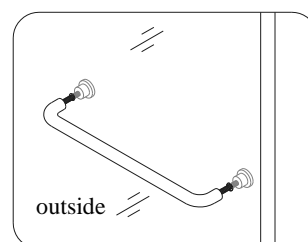
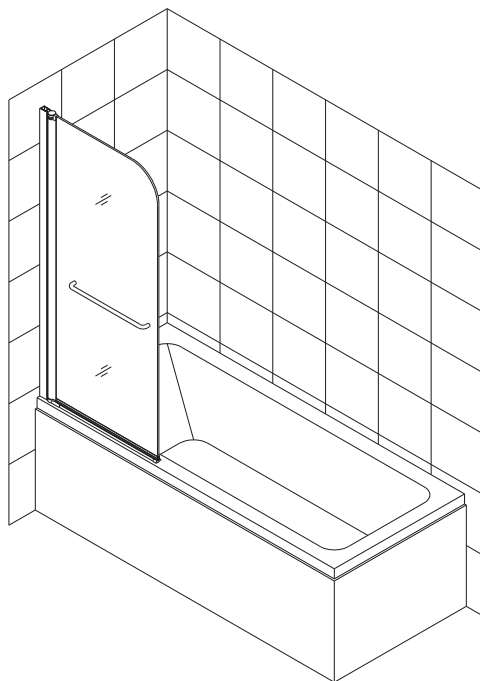

Fig 7
Fig 8
7. Mount the **Handle (11)** onto the outside of the **Glass door (02)**. See Fig 7 and Fig 8